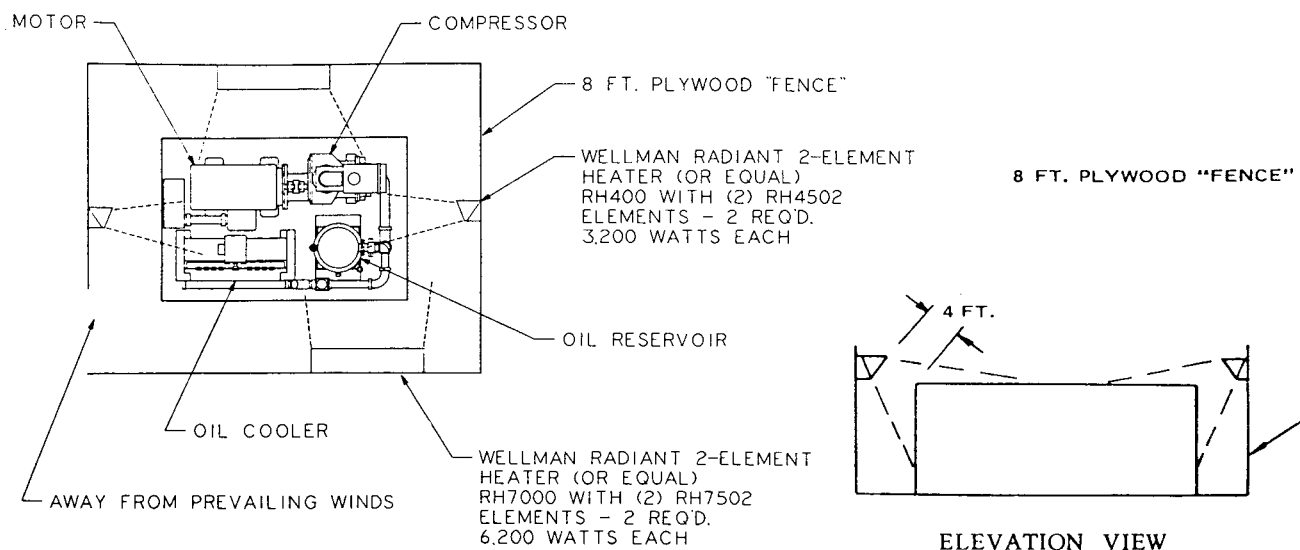

FIGURE 3-2
3. Some means of providing heat to the oil reservoir and cooler during shutdown should be provided. There are various methods to accomplish this, but since openings are not provided for sump heaters, the use of radiant heaters is recommended. The heaters should be sized to provide at least a -10°F environment for coolers, motor and sump. Figure 3-2 shows how these might be located in a typical installation and sizes required.